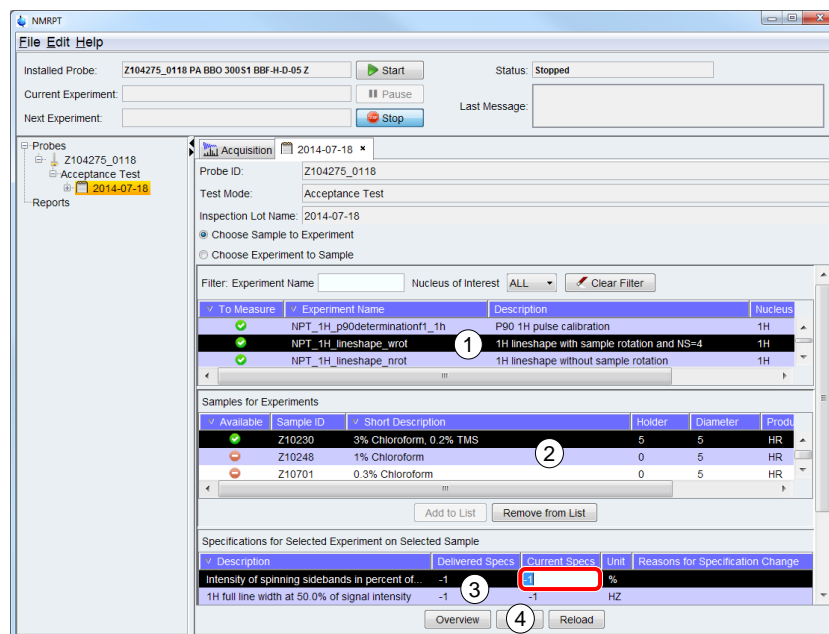

Figure 3-7: Set experiment specifications on Inspection Lot tab
5. The **Inspection Lot** tab opens in **NMRPT Workspace**. Click on table entries to select a combination of experiment (Figure 3-7 (1)) and sample (Figure 3-7 (2)). The corresponding experiment specifications are listed in a third table shown in Figure 3-7 (3).
6. Click into **Current Specs** cell of an experiment specification item in table (3) shown in Figure 3-7. Enter the new value to be applied.
8. When finished, click **Save** (Figure 3-7 (4)) to apply all changes.